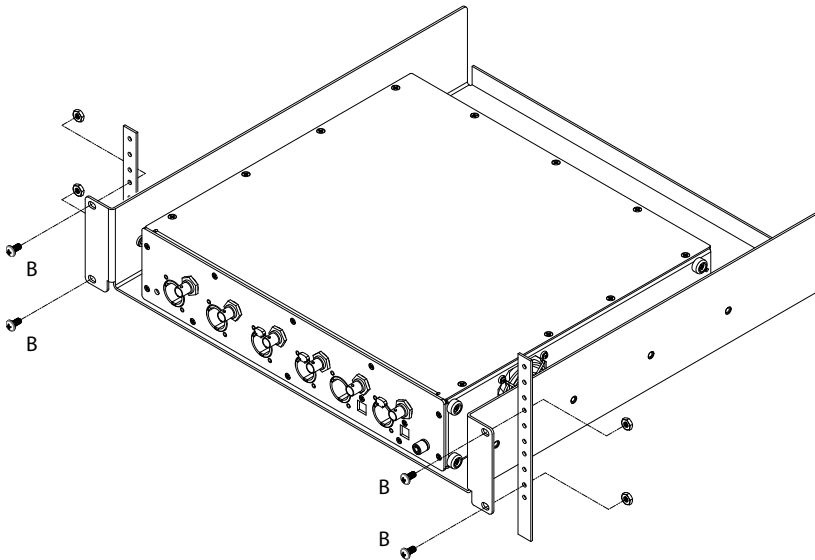

Figure 1. APx515 and rackmount shelf adapter, mounted in 19" rack.
Mounting Option I: Unsecured shelf mounting (Figure 1)
Step 3. Turn the shelf upside down and place it over the APx515 chassis bottom, with the rubber feet in between. Align the shelf so that the feet are under the indentations at (D) for flush mounting, or at (E) for recessed mounting.
Step 4. Insert the 4 6-32 x 9/16" screws (C) through the screw holes in the shelf indentations, through the rubber feet, and into the tapped mounting holes in the APx515 chassis bottom.
Step 5. Using the 4 10-32 5/16" screws (B), mount the assembled shelf and APx515 instrument in a standard 19" equipment rack. See Figure 1.